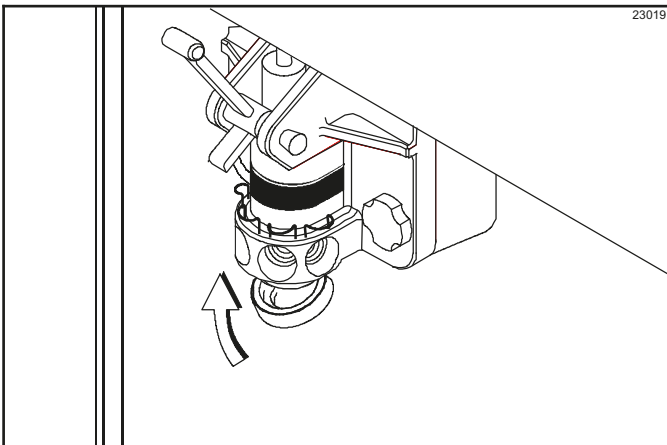

Figure 6-54
8. Install the restrictor cap on the freezer door spout. (See Figure 6-54.)